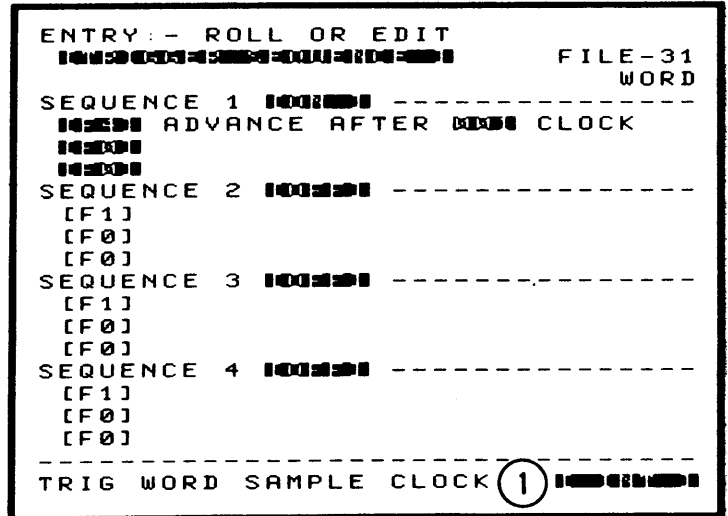
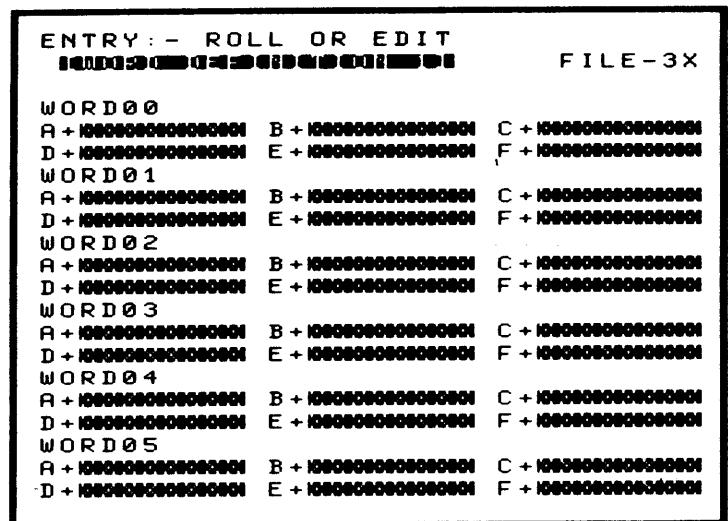

FIGURE 5-18. TRIGGER MENU
FIGURE 5-19. TRIGGER WORD DEFINITION MENU
The best way to understand the TRIGGER MENU is to imagine it as a "net" with which you will trap data. You arrange the data flow through the net with the TRIGGER MENU (Figure 5-18) and design the shape of it with the TRIGGER WORD DEF PAGE (Figure 5-19). The TRIGGER MENU arranges the data flow by providing programmable control over the four sequences of search and the particular functions of levels (3 for each) within those sequences. Table 5-1 describes the TRIGGER MENU functions. The TRIGGER WORD DEF PAGE, which are accessible only when the TRIGGER MENU is displayed, are used to define the actual Trigger words (12 maximum). Note that any one Trigger word may be up to 48 bits wide. The TRIGGER MENU is used to program the general flow of the sequential Trigger Search. At power-up, it is always displayed, preset to the simplest trigger condition:
**5.3.4.2 Trigger Menu Sample Clock Programming.** Table 5-2 shows the sample clock sources and their selection order when the cursor is in the "Sample Clock" field (See Figure 5-18, ①) and the "ROLL" pushbutton is pressed. Note that the programmed clock source for the TRIGGER MENU Sample must be assigned also to one of the active Pod groups (see TRACE MENU, Section 5.3.1.7). If the "Clock" field is changed in the TRIGGER MENU, the TRACE MENU must also be changed to correspond with the TRIGGER MENU.